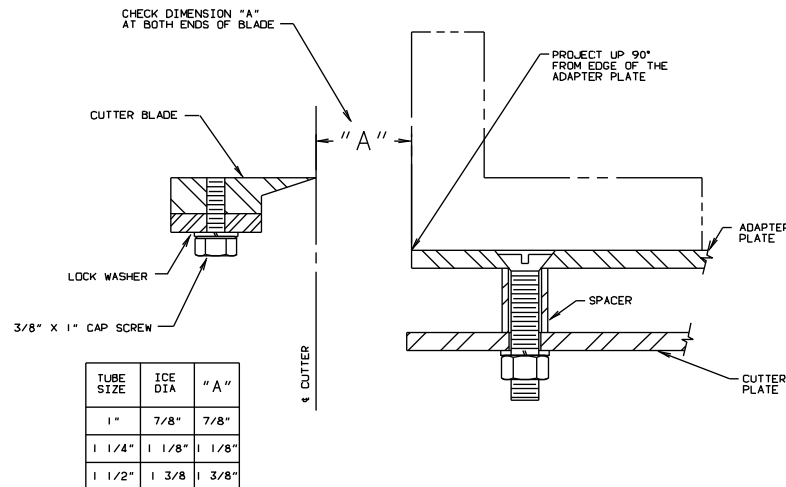

Figure 9-6
4. Refer to Figure 9-6; adjust each blade to dimension "A" and lock the blade in position by tightening the 3/8" cap screws.
2. Locate the new adapter plate, holding the correct dimension "A" from the edge of the plate to the edge of the blade. See Figure 9-6.